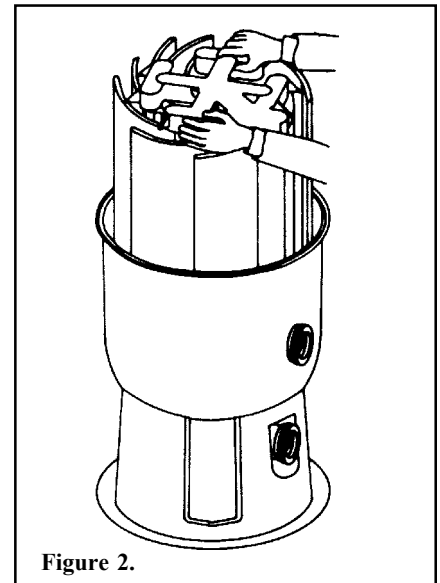

Figure 2.
6. Grasp element assembly at top manifold using hand holds and lift to remove it (Figure 2).